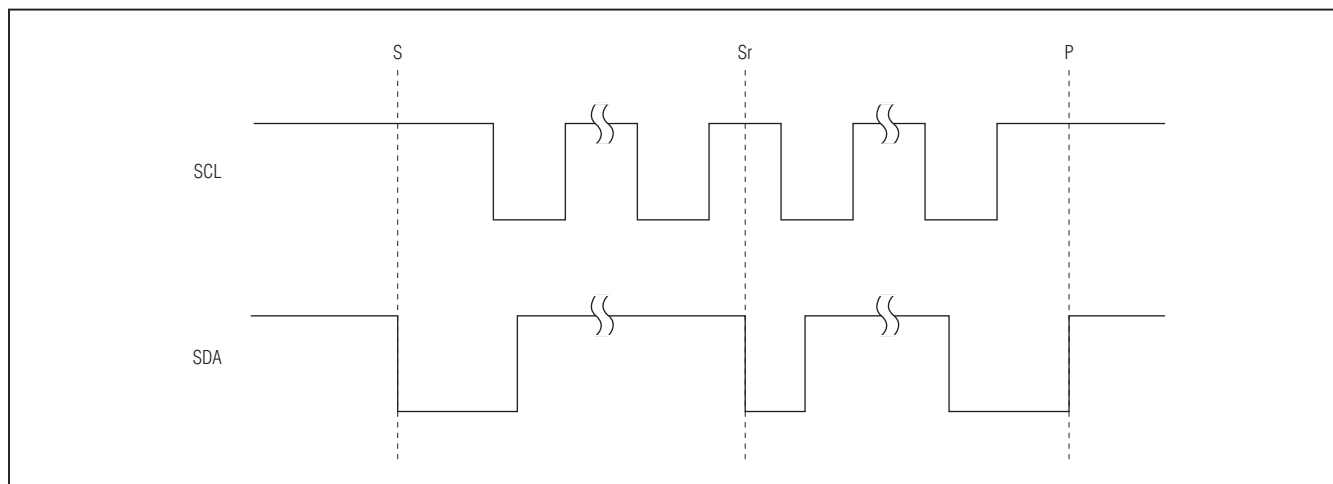

Figure 17. I²C START, STOP, and Repeated START Conditions
When writing to the MAX3107 using I²C, the master sends a START condition (S) followed by the MAX3107 I²C address. After the address, the master sends the register address of the register that is to be programmed. The master then ends communication by issuing a STOP condition (P) to relinquish control of the bus, or a repeated START condition (Sr) to communicate to another I²C slave. See Figure 17.